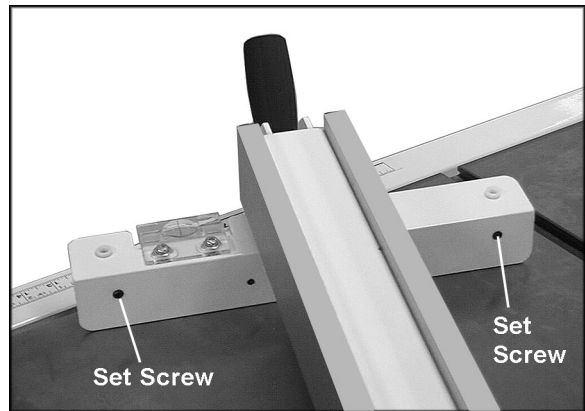

Figure 14
11. If fence side is not parallel with miter slot, unlock fence and lift it off guide rail. Adjust one of two set screws (Figure 14) until fence is parallel to miter slot along its entire length when in locked position.
The fence has been adjusted by the manufacturer to lock securely when the handle is pushed down. If adjustment is needed, unlock fence and lift it off guide rail. Adjust *equally* two set screws (Figure 14) until fence is held securely when lock handle is pushed down.